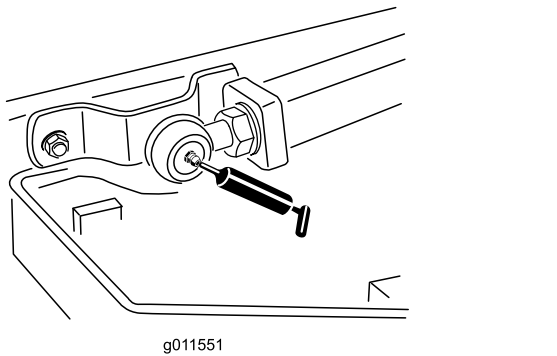

Figure 53
- 2 lift-arm ball joints (Figure 53)